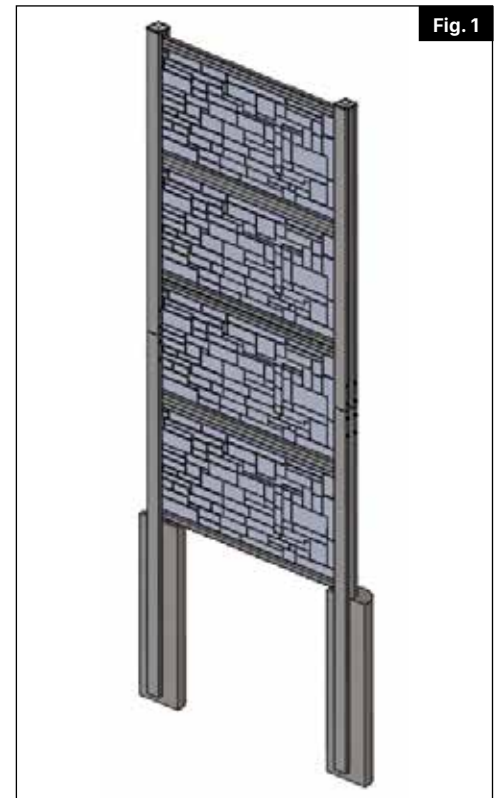

Fig. 1
- Post will be constructed using one 148" I-beam (bottom post) and one 124" I-beam (top post) plus a 24" splice with hardware (Fig. 1).
- a. Attach bracket to post for bottom rail on both sides. Ensure bottom rail is level and attach rail to brackets (Fig. 1).